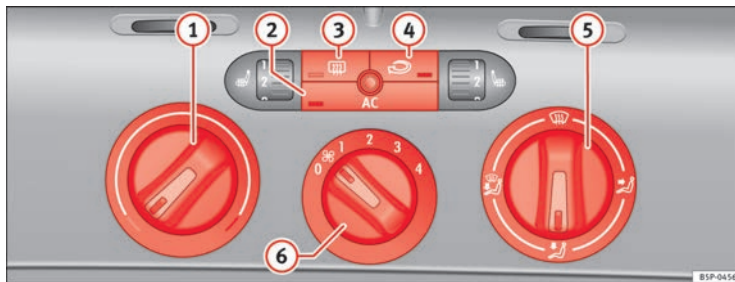

Fig. 130 On the dash panel: Climatic controls
- Use the knobs ⇒ Fig. 130 ① and ⑤ and control ⑥ to set the temperature, air distribution and blower speed.
- To switch a function on or off, press the appropriate button ②, ③ or ④. When the function is activated, the display window in the lower corner of the button is lit.
- ① Temperature selector ⇒ page 162
- ② **AC** button – Heating, ventilation and air-conditioning system on/off ⇒ page 162
- ③ button – Heated rear window The heating will be switched off automatically approximately 20 minutes after switching on. It can also be switched off beforehand by pushing the button.
- ④ Button – Air recirculation mode ⇒ page 163
- ⑤ Air distribution control ⇒ page 162
- ⑥ Blower switch. There are four speed settings for the air flow. The air flow should always be set at the lowest speed when driving slowly.
- Switch on the air conditioner using the button ⇒ Fig. 130 .